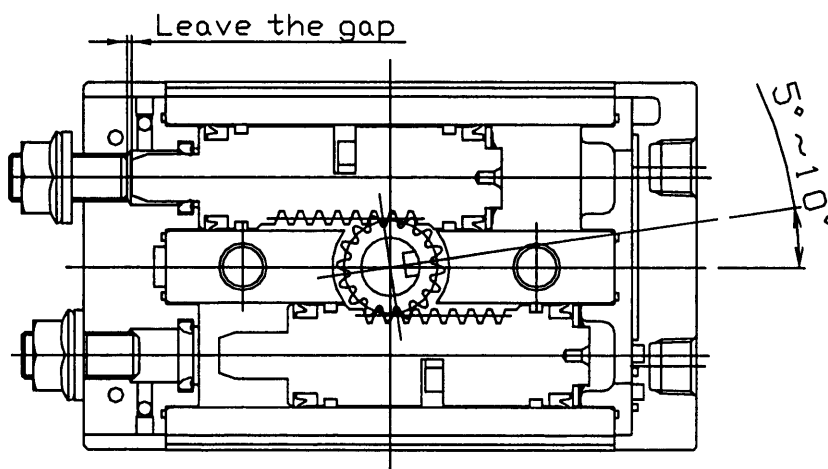

Fig 25
- (2) Set the bearing to the housing of the body, and insert the piston Ass'y to the body. Since the piston packing goes through the bearing housing, insert the piston Ass'y slowly pressing the packing inside so that packing is not gouged. (See fig. 25)
- (3) Mount the cover and the end cover, and push the piston Ass'y and the cover until they touch the end cover as in Fig 25. Adjust the hexagon socket head set screw (adjust bolt) so that the screw does not contact with the piston Ass'y.